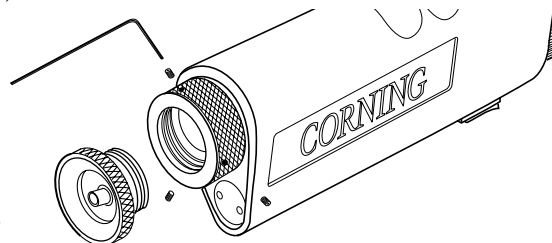

Figure 14
6.6 To install and use one of these dedicated adapters (Figure 14):